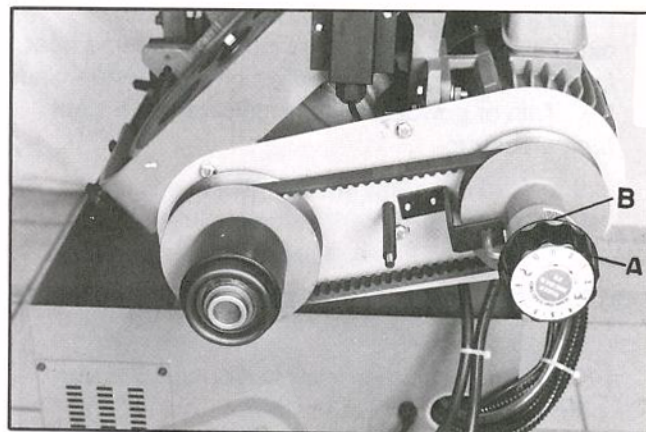

Fig. 4
To adjust the cutting speed, Please refer to Fig. 4 (B) is the speeds' director (from 25M - 75M). And turning (A) handle knob to your desired speed. (Note: Adjustment must be done during the machine running.)